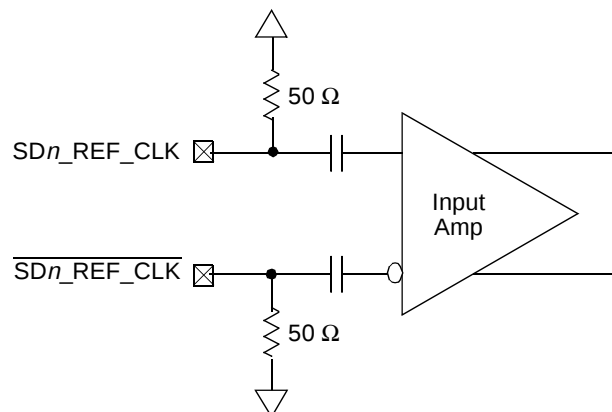

Figure 49. Receiver of SerDes Reference Clocks
Figure 49 shows a receiver reference diagram of the SerDes reference clocks.
- The SDn_REF_CLK and $\overline{SDn_REF_CLK}$ are internally AC-coupled differential inputs as shown in Figure 49. Each differential clock input (SDn_REF_CLK or $\overline{SDn_REF_CLK}$) has a 50 Ω termination to SGND_SRDSn (xc0revss) followed by on-chip AC-coupling.